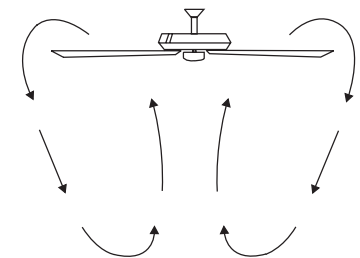

Fig. 28
**Cool Weather Operation:** Reverse (clockwise). An upward airflow moves warm air off the ceiling areas (Fig. 28). This allows you to set your heating unit on a cooler setting without affecting your general comfort.